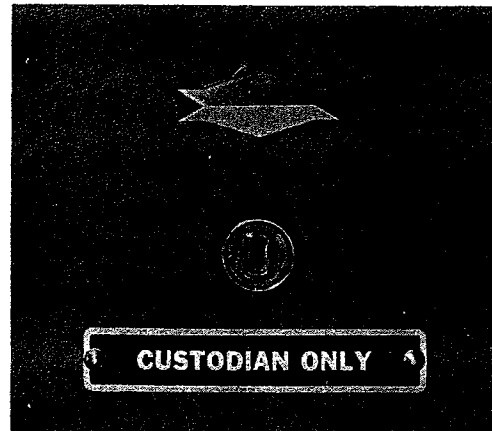

Figure 9. Custodian Compartment
4. To unlock the Custodian's Door, insert Key No.4 into lock on door and unlock. Turn knob to open door, remove keys. (Figure 9)